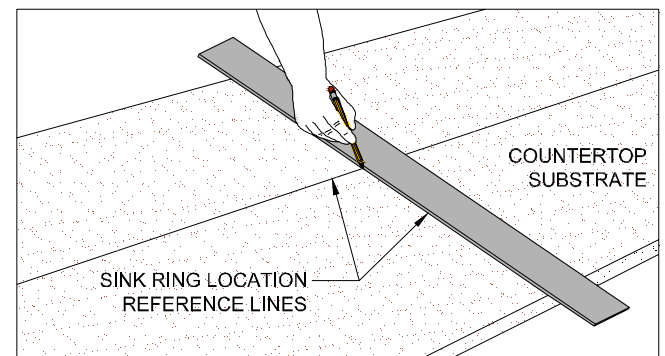

Figure 1B
- Locate where the ring is to be installed into the substrate and draw alignment cross hairs. (FIG. 1B)